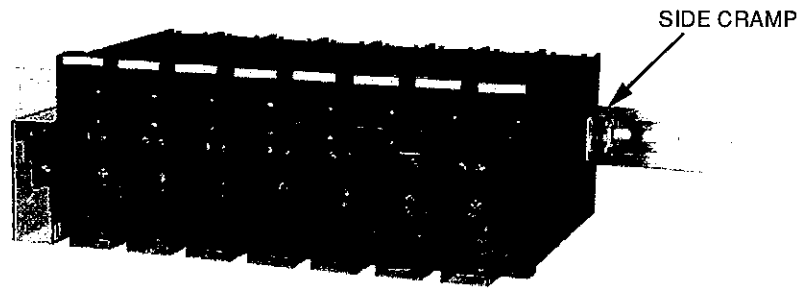

Fig.5-6
- (2) After installing the modules, fix the side clamps supporting the right or left ends of the outermost modules as shown in Fig.5-6.